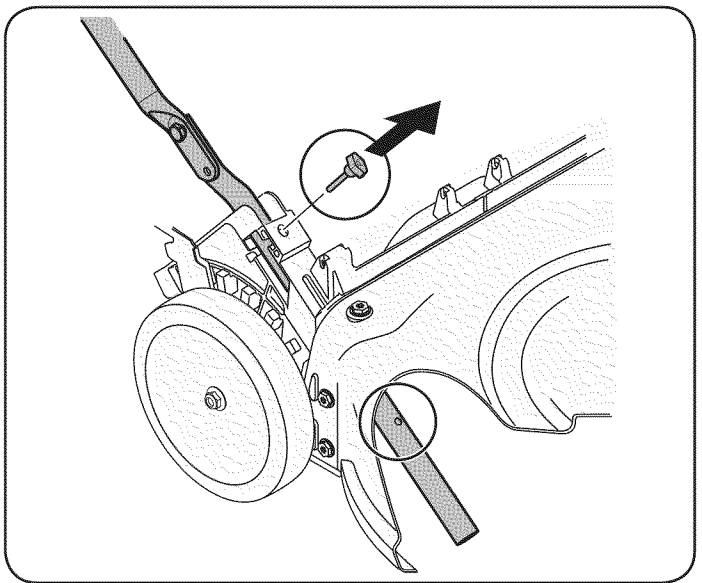
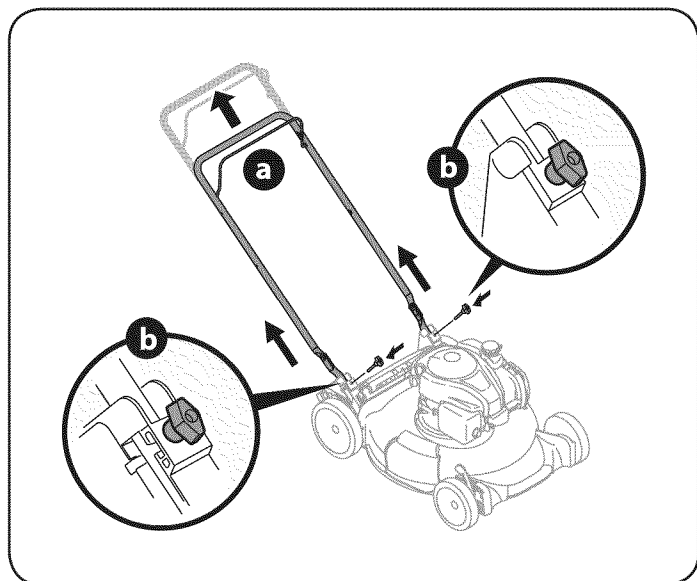

Figure 3
Figure 4
2. Remove T-bolts from the handle brackets as shown in Figure 3.
- a. Pull upward on the handle until holes in lower handle (shown in Figure 3 deck cutaway) line up with holes in handle bracket. See Figure 4.
- b. Insert the T-bolts removed in step earlier through the handle brackets and lower handle and tighten securely to secure the handle in place. See Figure 4.